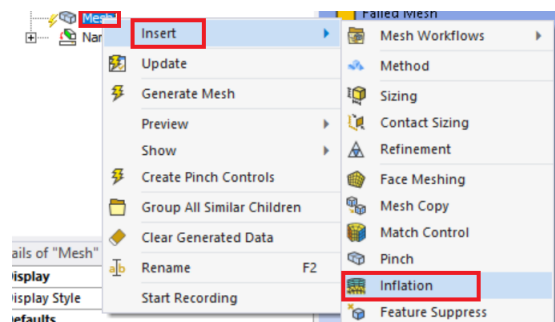

Figure 73: Adding an *Inflation Layer* in ANSYS Mesh.
2. Adding an *inflation layer*, to better capture the boundary layer close to the walls, as depicted in figure 73.